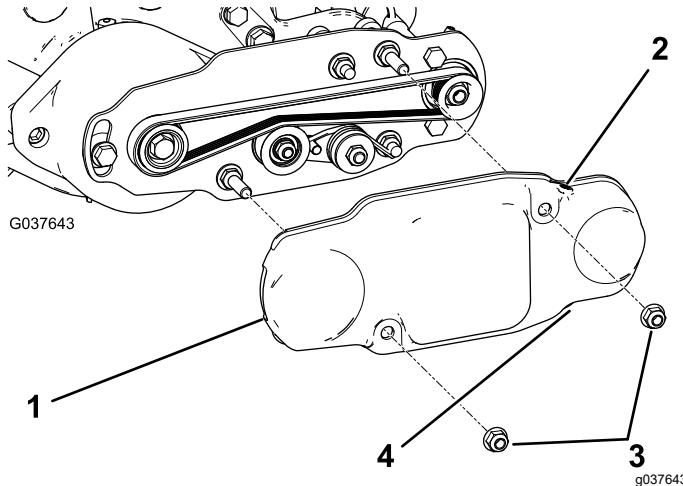

Figure 18
- Slide the belt cover onto the mounting bolts and secure the cover with 2 flange nuts (Figure 18).
- Ensure that the top setscrew is installed; remove and discard the bottom setscrew for drainage (Figure 18).